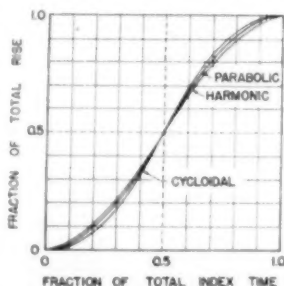
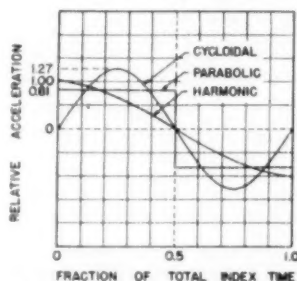
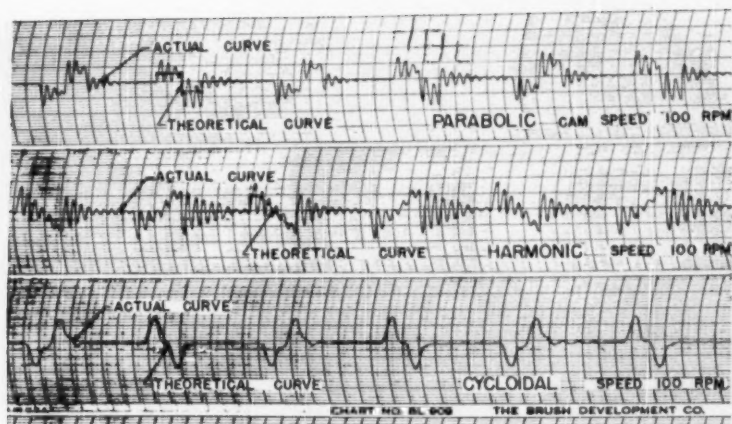

FIG. 2 FOLLOWER DISPLACEMENT VERSUS TIME
FIG. 3 FOLLOWER ACCELERATION VERSUS TIME
FIG. 4 TYPICAL ACCELERATION VERSUS TIME CURVES
The displacement-time curves plotted from the foregoing equations are shown in Fig. 2, while the acceleration-time curves plotted from the same equations are shown in Fig. 3. These curves do not take into account such factors as the follower-system elasticity, or the static or viscous friction which appears in any actual machine system. When these factors are taken into account, as they must be in any actual tests, an entirely different force picture appears. Typical acceleration-time charts made from the tests are shown in Fig. 4. The accelerations are directly proportional to the forces being exerted on the follower in each case.
The charts in Fig. 4 show two important characteristics which are not apparent from the theoretical curves in Fig. 3. They are (1) that the forces produced by the parabolic and harmonic profiles are about twice as great as expected; and (2) the sudden application of these forces causes the follower system to vibrate at its natural frequency. The vibration takes place during both index and dwell periods.
The conditions mentioned are illustrated in Figs. 4 and 5. Fig. 4 shows the effect of the instantaneously applied acceleration. A considerable amount of vibration is excited here and dies out in accordance with the amount of damping which is present. It is interesting to note that in the case of the parabolic and harmonic cams, a large amount of follower vibration